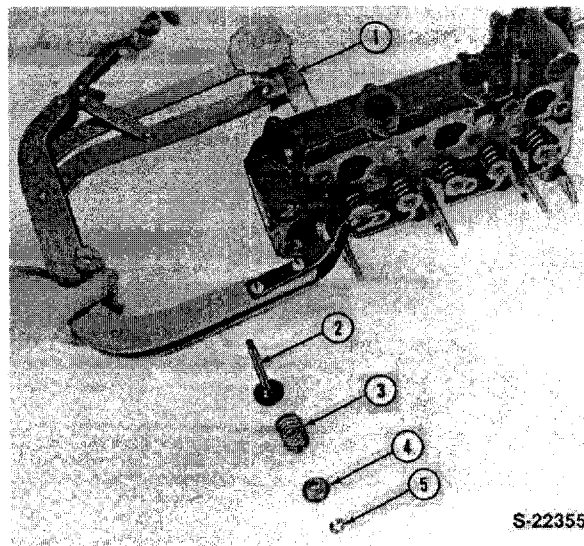

Figure 13
2. Use a valve spring compressor and remove the valve spring retainer locks, spring and spring retainer from the valves, Figure 13.